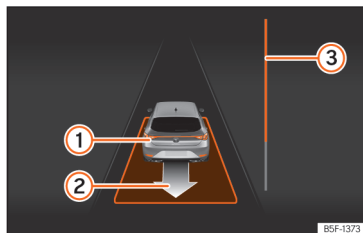

Fig. 154 On the instrument panel display: driving off from perpendicular parking.
- Reverse until the continuous ParkPilot signal sounds; **OR:** reverse until the instrument panel display shows the forward indication. The progress bar  Fig. 154  indicates the distance to cover.